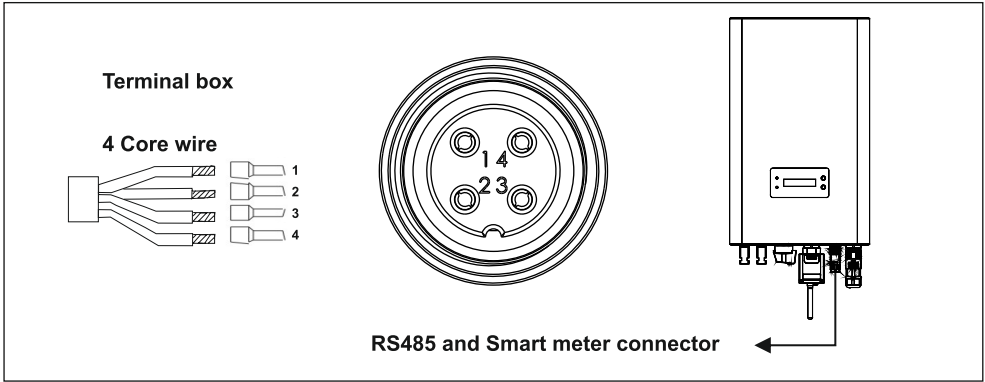

Fig. 15
GTI-SERIES inverter's Communication terminal consist of RS485 and smart meter connections as shown in fig. 15. Table 6 explains signal connection on communication terminal.
- 4) Fig 15 shows labels for (RS485) com and smart meter connector